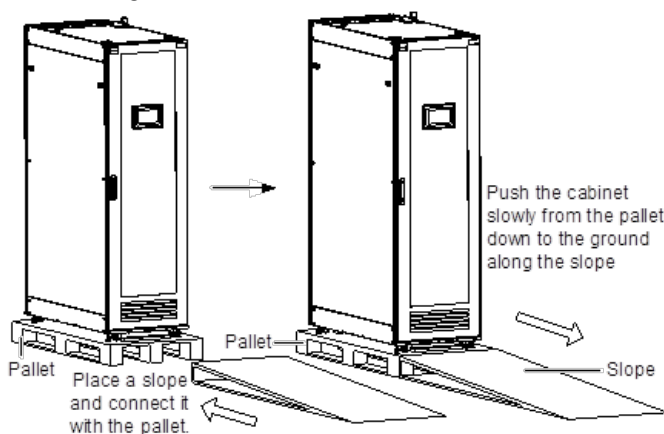

Figure 2-1 Remove from the pallet
- Loosen the fixing nuts on the four feet bolts to raise the feet, and the four casters will bear the weight. Place a slope (user-provided) in front of the front or rear door, and connect it to the pallet. Push the cabinet slowly from the pallet down to the ground along the slope, as shown in Figure 2-1.